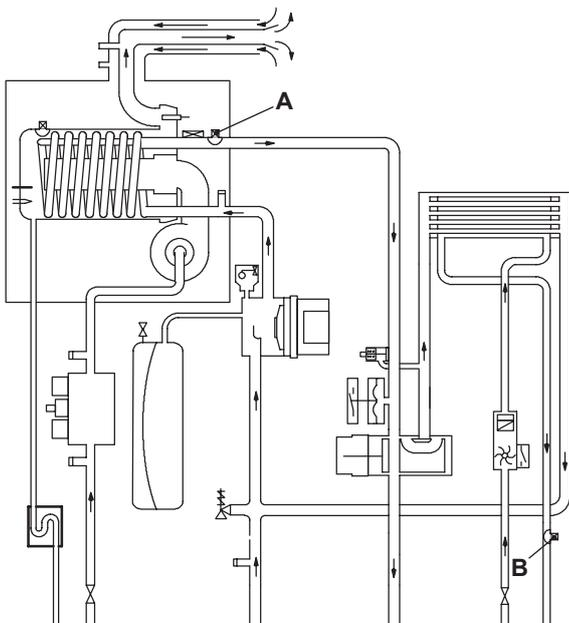
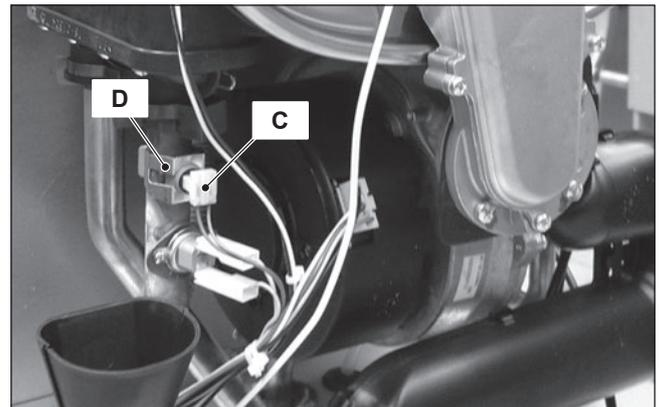
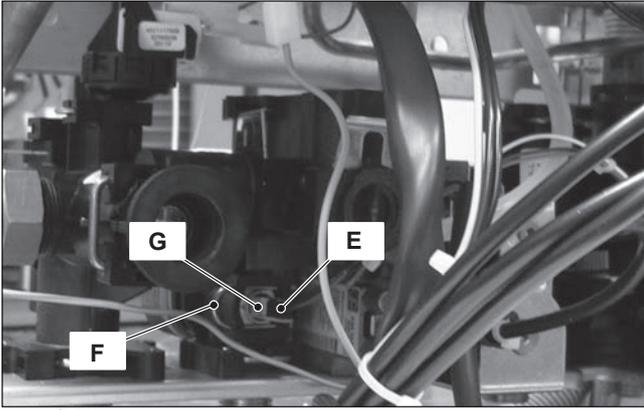

Figure 15.2
Figure 15.3
Figure 15.4
On the boiler there are two Temperature probes. One on the output of the primary heat exchanger (c.h. Temperature probe) A in Figure 15.2 and Figure 15.3; one on the output of the d.h.w. heat exchanger (d.h.w. Temperature probe) B in Figure 15.2 and Figure 15.4.
- 3 Remove the electric connector C and remove the c.h. temperature probe D - Figure 15.3.
- 2 Remove the electric connector E (Figure 15.4)